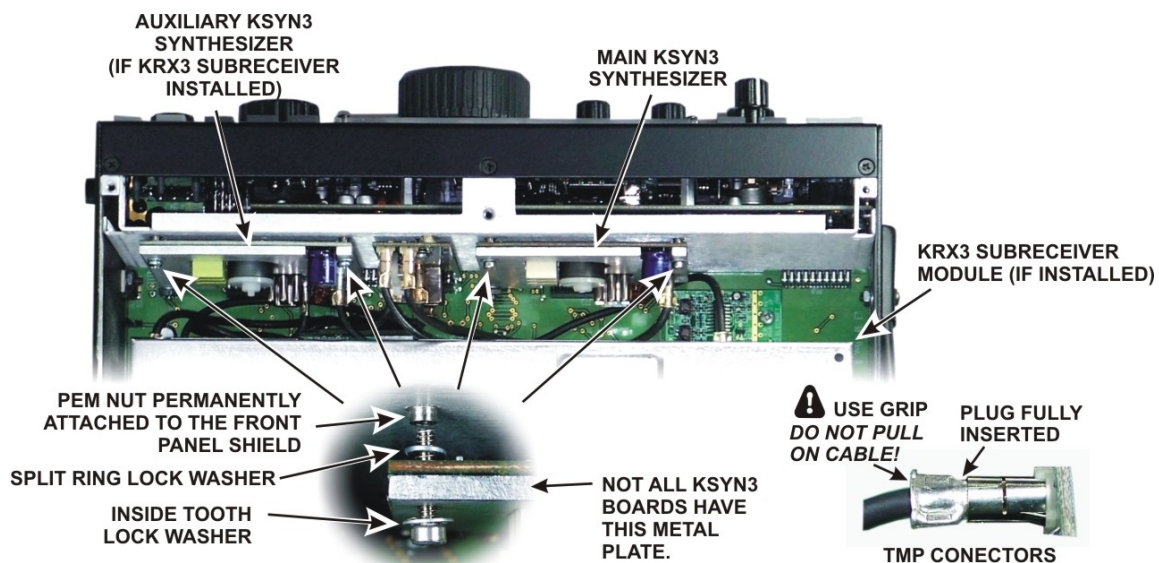

Figure 2. Removing the KSYN3 Boards.
- ☐ If you are modifying the main KSYN3 board (see Figure 2) and the K144XV 2-meter option is installed, remove the K144XV module. Remove the three screws securing it to the right side panel. You can move it out of the way while removing the synthesizer or you can unplug the connectors and set it aside.
- ☐ Remove the KSYN3 board(s) to be modified (see Figure 2). If the optional K144XV 2-meter module is installed, remove it to gain access to the mounting screws for the main KSYN3 board. Each board plugs into the RF board on bottom of the K3 and is held in place with two screws at the top. Loosen the screws and tip the boards to remove the split lock washers. Unplug the TMP coaxial cables as you lift each board out. The TMP connectors are held by friction. Pull only on the metal ears of the TMP plug. Do not pull on the coaxial cables.